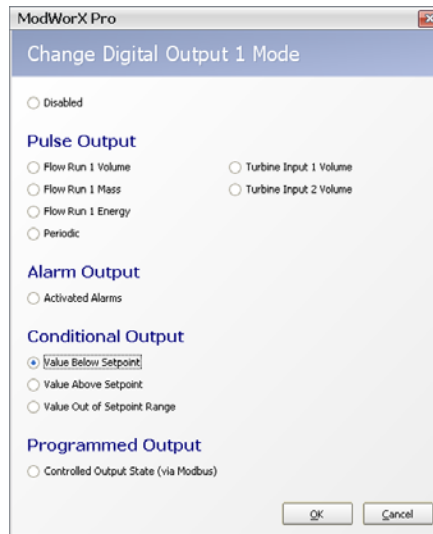

Figure 7.14
- value below setpoint– the alarm is activated when the assigned value is below the designated threshold (Figure 7.14)